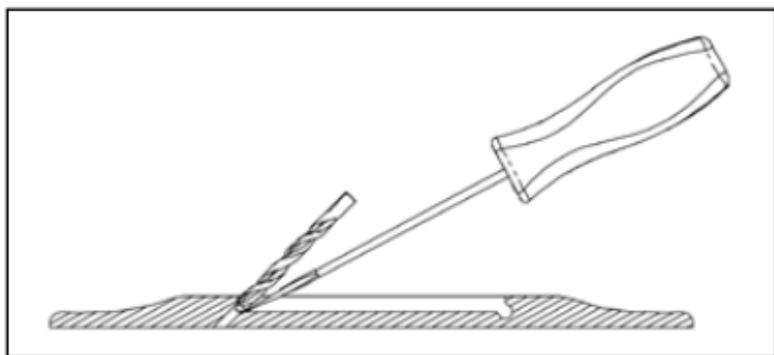

FIGURE 7
- The last $\frac{1}{8}$ " at the end of the pickup is not active. At least $\frac{1}{4}$ " of saddle must project beyond the E strings for the pickup to produce a balanced string response. If your guitar has inadequate saddle slot extension beyond the outside strings, it will be necessary to drill a small horizontal hole at the appropriate end of the slot to extend the inactive region of the pickup beyond the saddle. It is important to avoid disrupting the floor of the saddle slot when doing this. To protect the slot, lay a narrow slotted screwdriver under the tip of the drill bit before drilling the horizontal hole. (refer to Fig. 7)
3. Drill the pickup hole at a 45 degree angle at the very end of the saddle slot (either end is OK). If you have a 1/8" saddle, a 1/8" drill bit should be used assuming it fits into the slot smoothly. If it feels tight, use a 7/64" bit. Place the blade of the narrow screwdriver under the tip of the drill bit when drilling to avoid removing material from the bottom of the slot. (refer to Fig. 7)